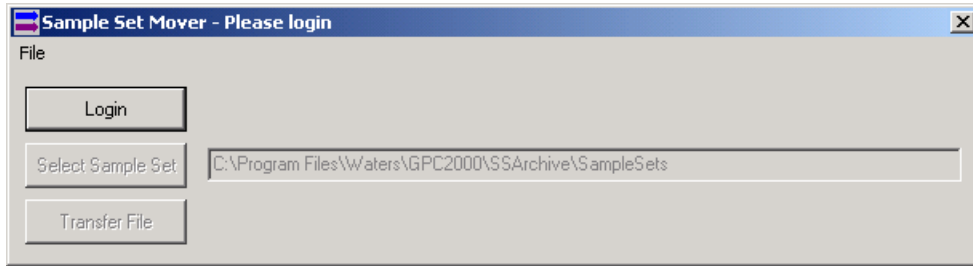

Figure 3-34 Selecting the Sample Set to Transfer
1. Click  (Sample Set Mover) to open the Sample Set Mover - Please Login dialog box (Figure 3-34).
8. The Sample Set Mover - Please Login dialog box reappears (Figure 3-34). Click Select Sample Set to browse for the sample set results that you want to send to Empower. All sample set results reside in this folder: